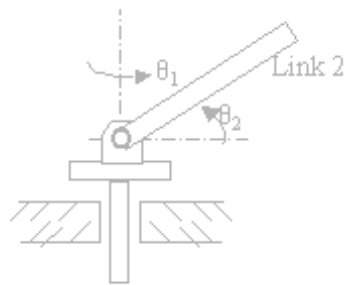

Figure 8
8. Consider a two-degree of freedom manipulator shown in figure 8. Assuming that the inertia of the first moving link is negligible and that the second moving link is a slender homogeneous rod of mass m , determine the dynamical equations of motion by the Lagrangian method using θ_1 and θ_2 as the generalized coordinates. [16]